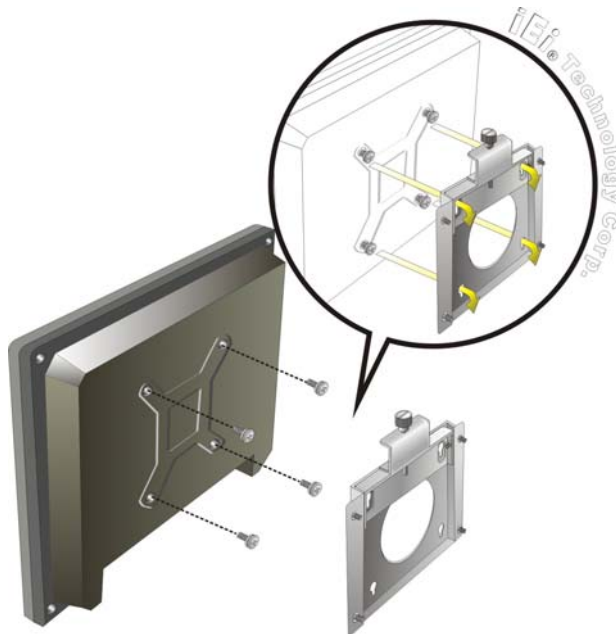

Figure 3-15: Chassis Support Screws
Step 6: Insert the four monitor mounting screws provided in the wall mount kit into the four screw holes on the rear panel and tighten until the screw shank is secured against the rear panel (**Figure 3-15**).
Step 8: Carefully insert the screws through the holes and gently pull the monitor downwards until the monitor rests securely in the slotted holes (**Figure 3-15**). Ensure that all four of the mounting screws fit snugly into their respective slotted holes.